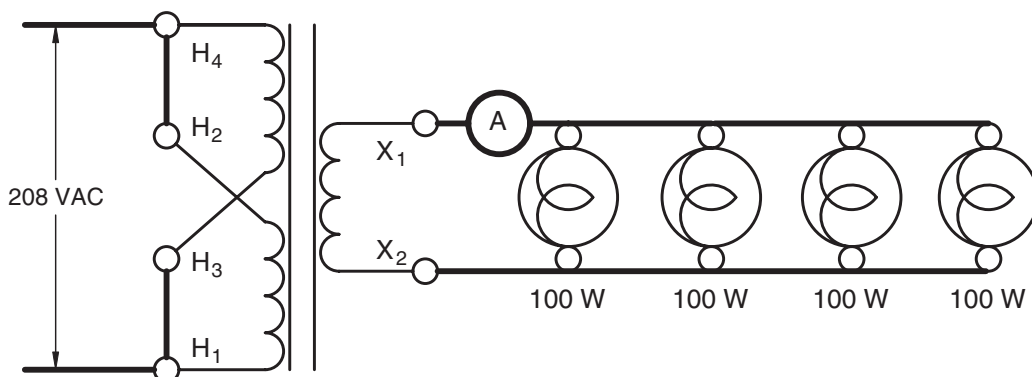

Figure 20-4 Adding load to the transformer secondary.
13. **Turn off the power supply** and reconnect the AC ammeter in the secondary circuit and add two more 100 watt incandescent lamps in parallel with the transformer secondary (Figure 20-4).